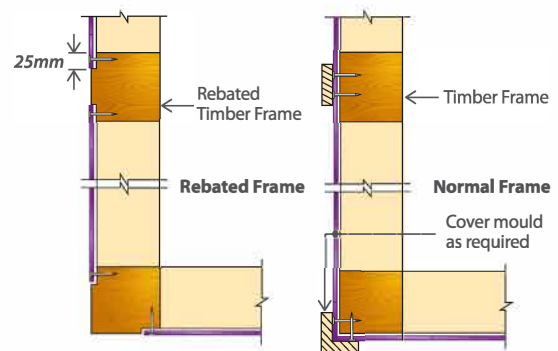

Figure 4. Nail-on Panel Fixing
When **PRIMA^{lattice}**™ is fixed directly to timber framing, nails must be installed as shown in **Figure 4**. Use only galvanised fibre cement nails. Drive nail head flush with the sheet surface.
3. Apply **PRIMA^{lattice}**™ and nail in accordance with the recommended nailing pattern. Refer **Figure 4**.